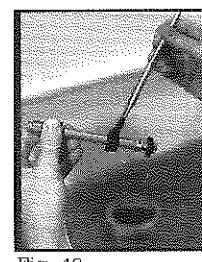

Fig. 48
5. Take the lower shaft assembly provided with the MRD Lok-Out (with high pressure seal) and grease the end cap's O-ring (Fig. 48) with Wrench Force synthetic grease of similar lube.